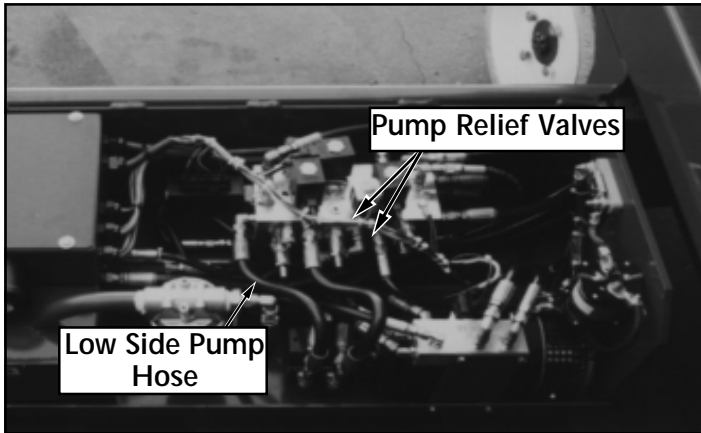

Figure 4-7: Pump Relief Valves
**PUMP RELIEF VALVES (Figure 4-7)**
**4.6 Switch Adjustments****TILT SENSOR (Figure 4-7)****Introduction**